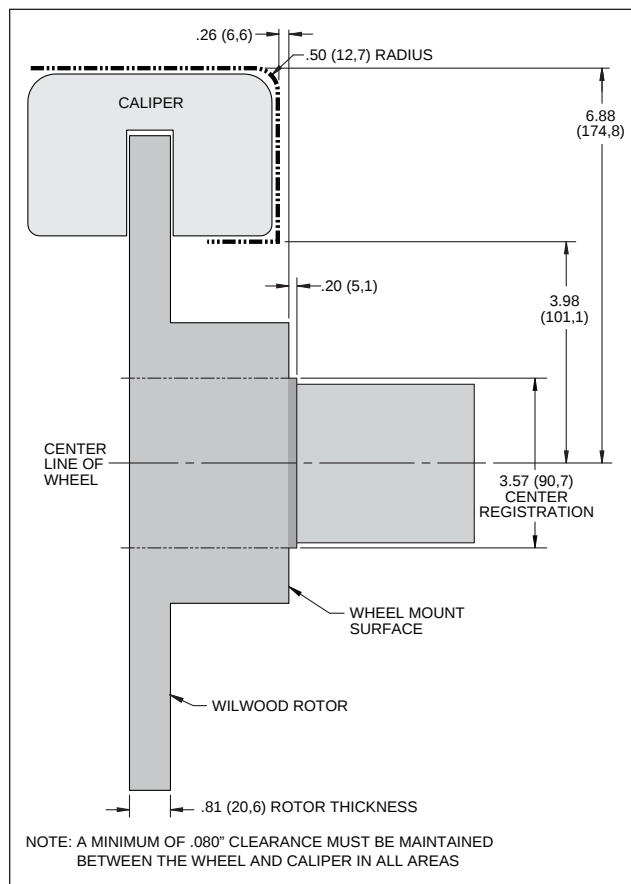

Figure 2. Wheel Clearance Diagram
• Verify your wheel clearance using Figure 2.
• **CAUTION:** Wheel fitment to OEM hub interference must be checked. There is a 3.57" diameter step on the hub face that was used to register the old brake drum (Figure 2). Be sure your wheel fits flush against the hub face. If the step interferes, you will need to use a wheel spacer (customer supplied) to clear the step.